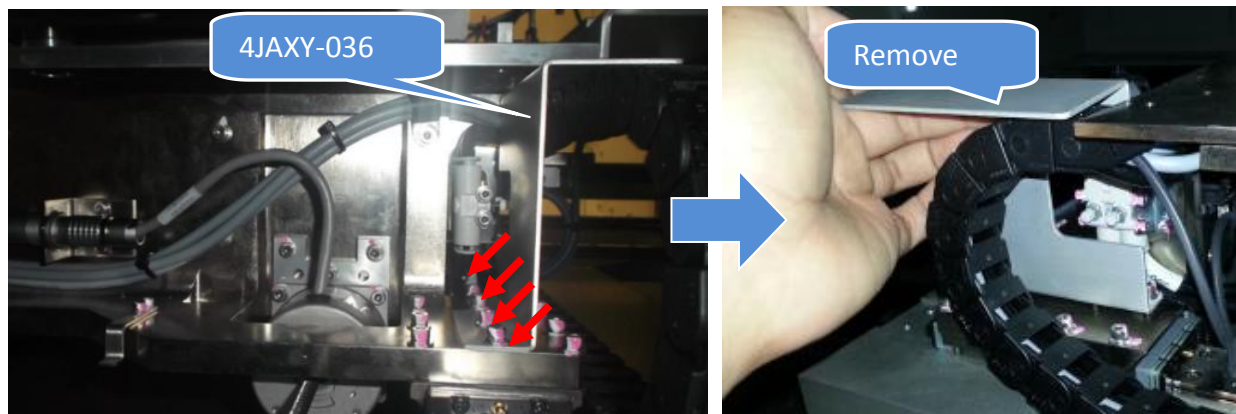

Figure 6 Chain Bracket Removal
10. Loosen 4 x Screws and remove CHAIN BRACKET (P/N, 4JAXY-036) as below Figure 6